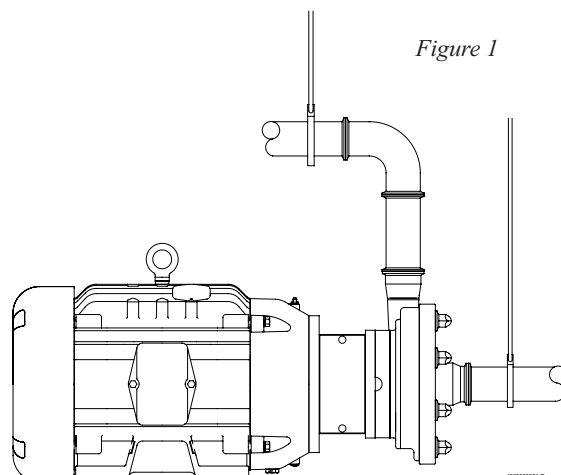

Figure 1
- Ensuring proper piping support and alignment at both the suction inlet and discharge outlet can help prevent serious damage to the pump housing (**Figure 1**).